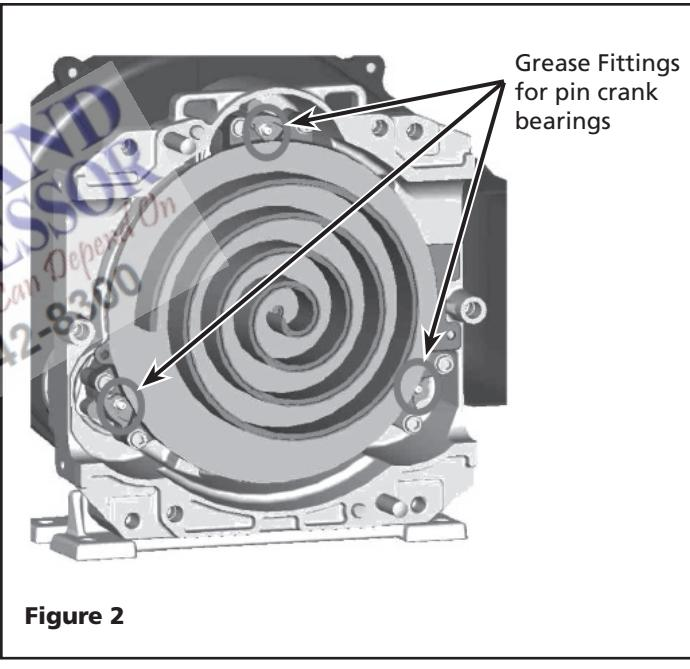

Figure 2
1. Remove the fan duct (2), part number 5 on Pages 6 and 7.
2. Remove the nuts and bolts and then the fixed scroll (FS) from the air end.
3. Grease all three pin crank bearings (See Figure 2 below and Grease Delivery Chart on page 2).